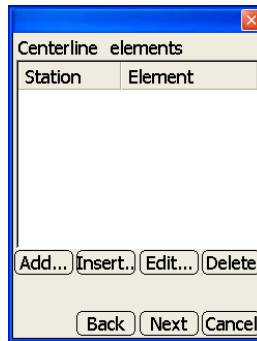

Figure 2-13. Centerline Elements Dialog Box
4. On the *Centerline elements* dialog box, press **Add** to create a centerline element, press **Insert** to add a centerline element between current elements, or press **Edit** to change a centerline element (Figure 2-13).